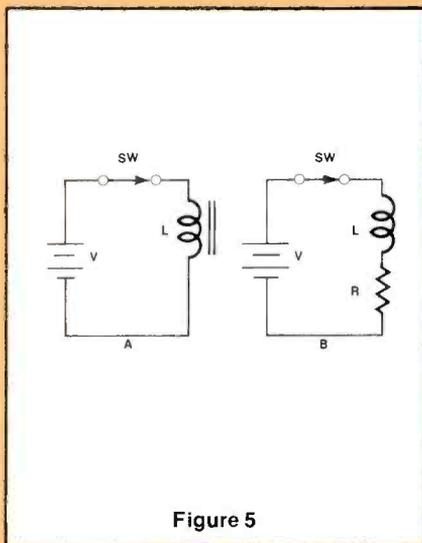

Figure 5
9. In Figure 5 the voltage, inductance values and switches are